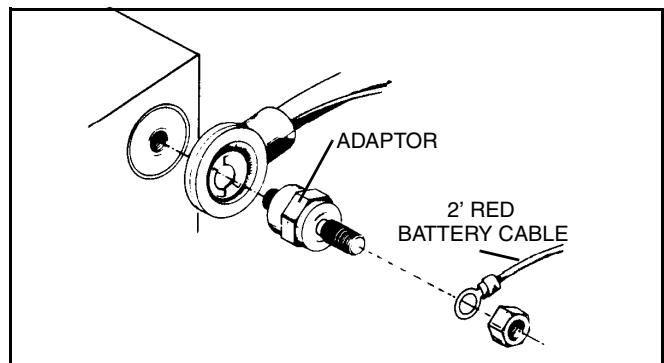

Figure 1-3
*NOTE: An adaptor is recommended for vehicles with a side post battery. (See Figure 1-3) (Adaptors can be purchased from your Sno-Way dealer, Part #96100773.*